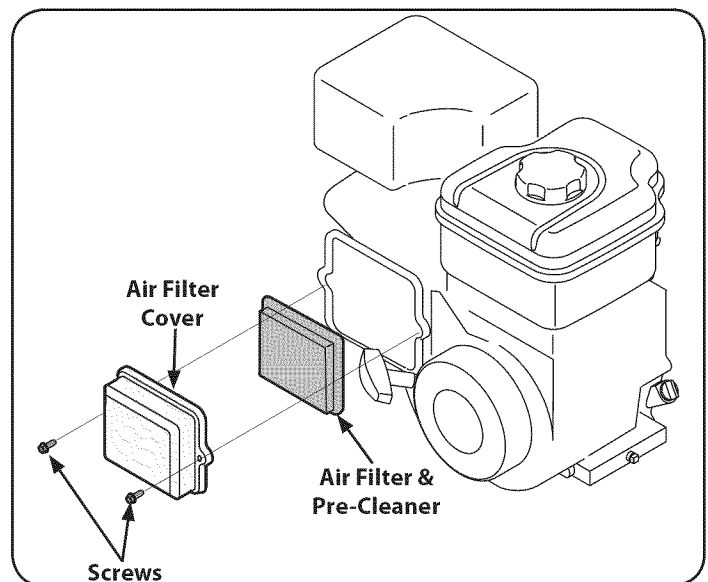

Figure 22
1. Remove the screws that hold the air filter cover. See Figure 22.